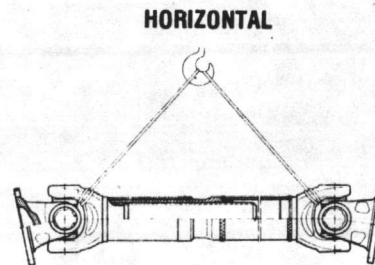

Fig. 3
• Generally, drive shafts should be transported in a HORIZONTAL position. Fig. 3